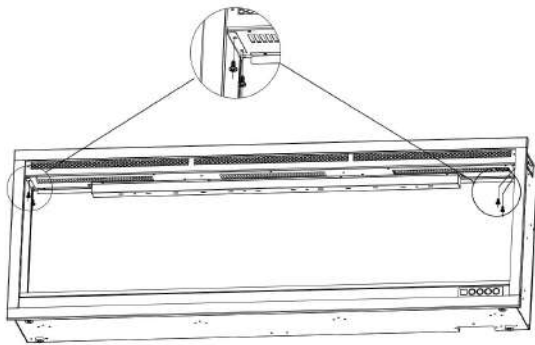

Fig. 2-1
1. Remove four screws ( two on each side) from the two sides of the fireplace. **Fig.2-1**